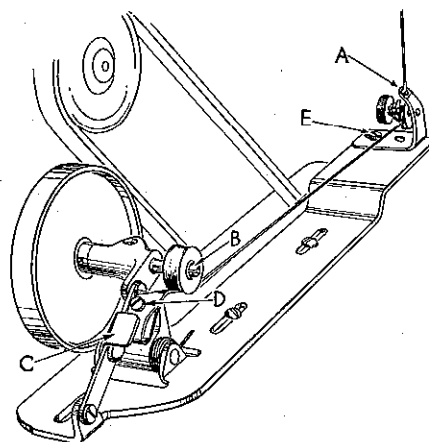

Fig. 4
Thread the bobbin winder by leading the thread from the supply down through the eyelet (A, Fig. 4), down between the tension discs, and under the tension post. Press an empty bobbin on the winder shaft (B) up to the stop, wind the end of thread around the bobbin a few turns in a clockwise direction and press downwardly on hand lever (C) until pulley is moved into contact with machine belt, and is locked in that position. When the machine is operated, the bobbin will be rotated and filled until the thread engages the automatic throwout member, which disengages the pulley. The extent to which the bobbin is filled can be varied by the regulating screw (D).